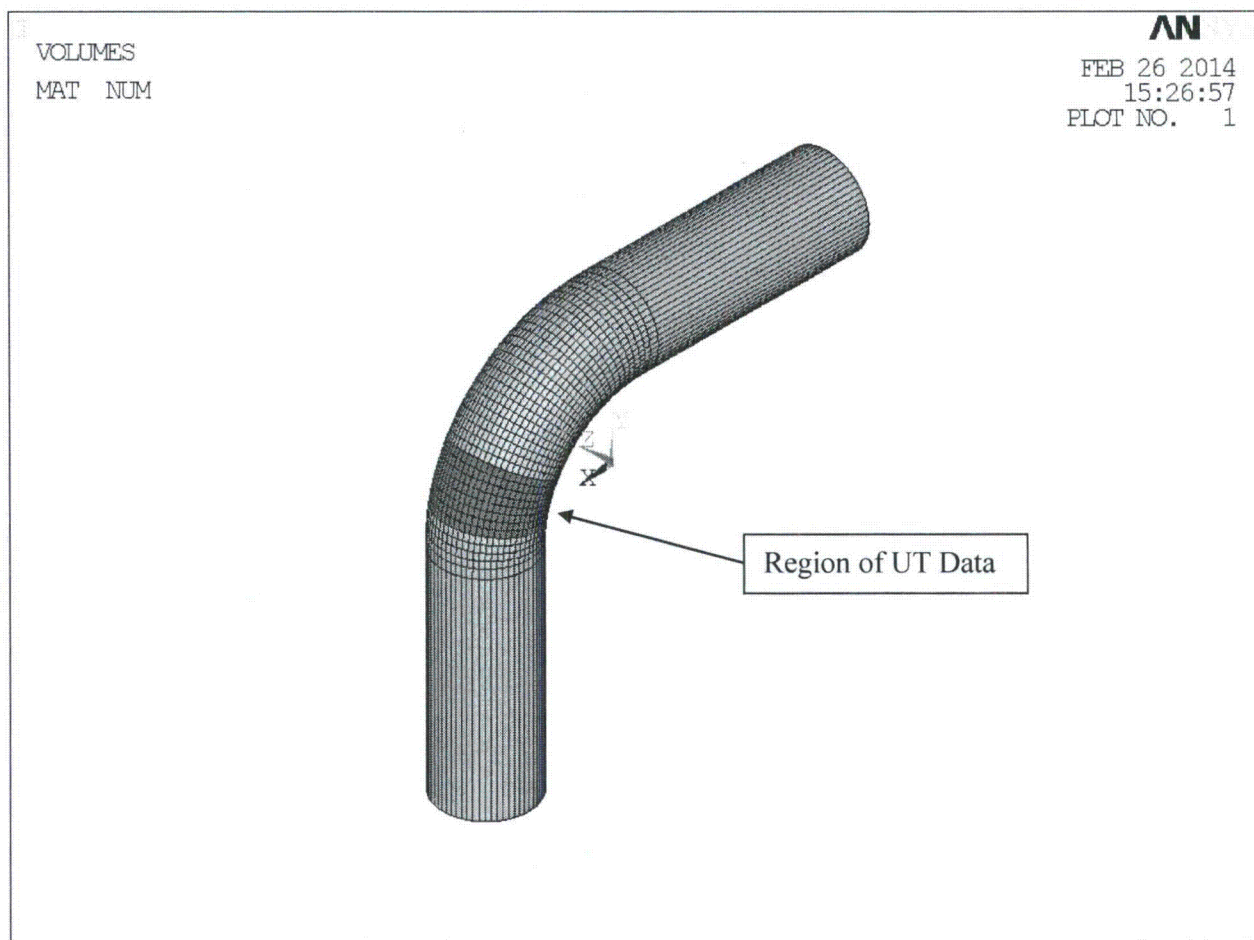
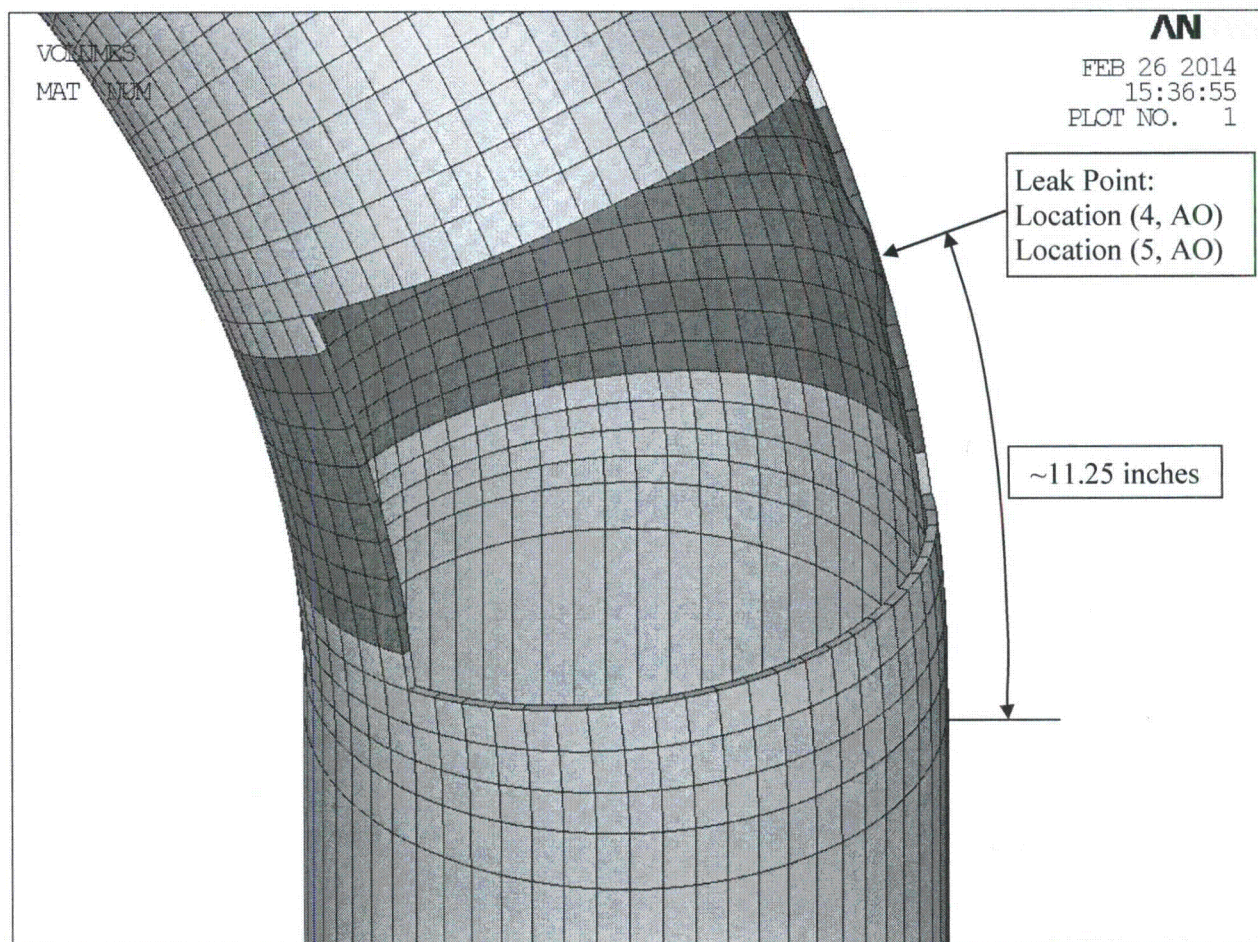
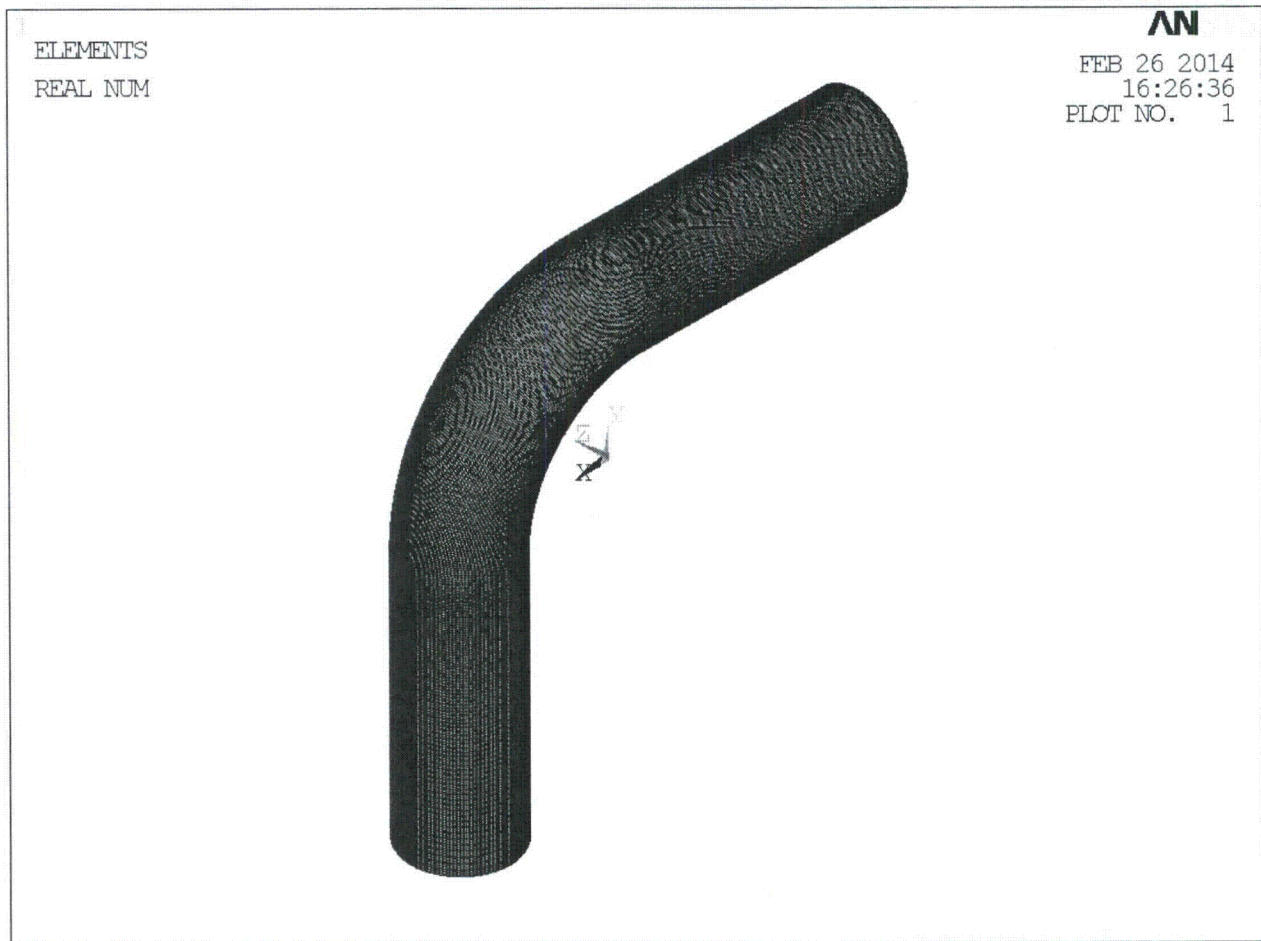
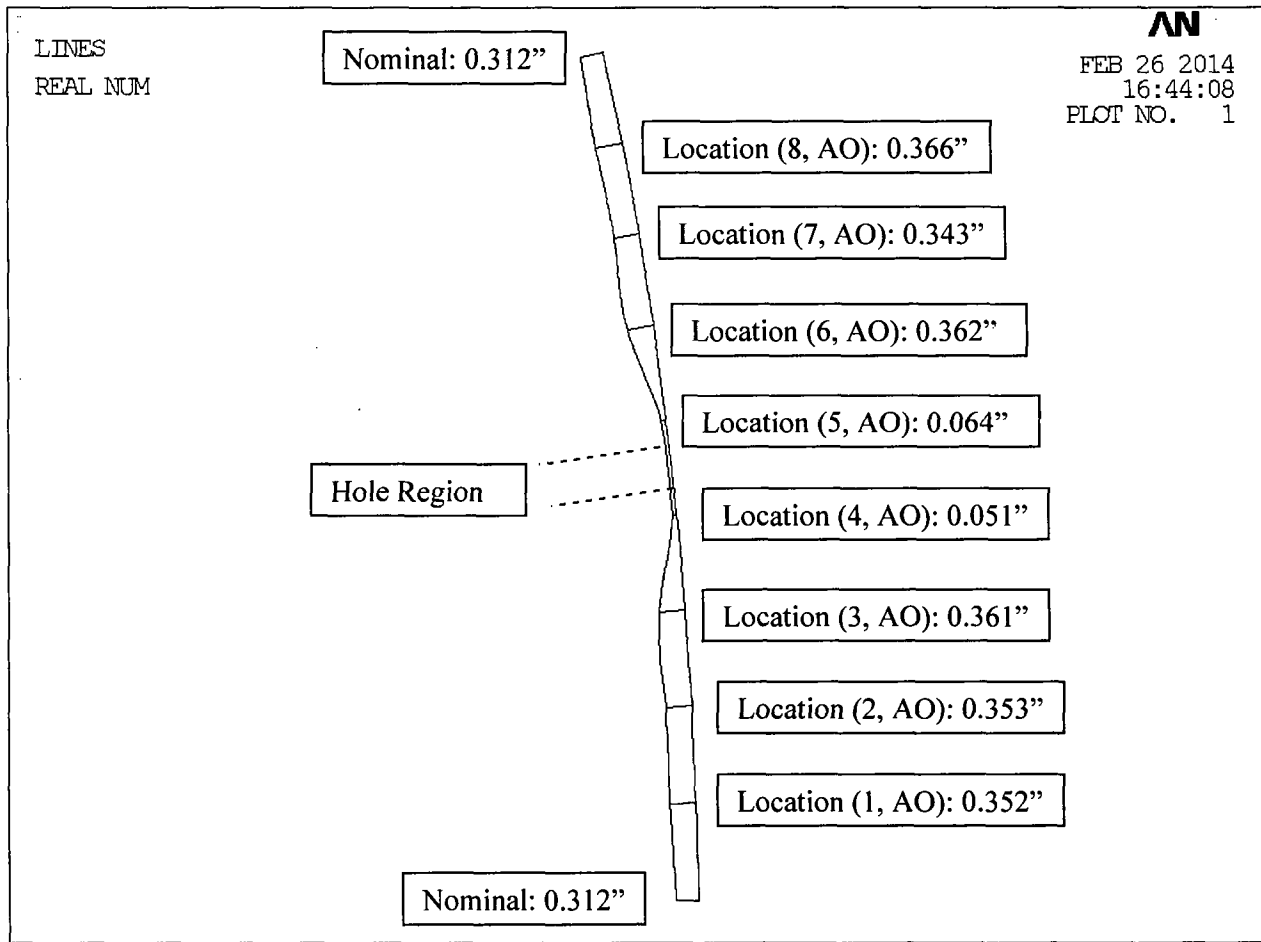

Figure 3: Model Geometry, Global View
Figure 4: Model Geometry, Thinning View
Figure 5: Finite Element Model
Figure 9: Linearized Path Locations
Figure 3 shows a global view of the FEM solid model geometry. Figure 4 shows a view of the thinning in the solid model geometry with a detailed view of the leak region. Figure 5 shows a global view of the final finite element model mesh. The ANSYS input files that generate the FEM are listed in Appendix A.
Linearized stresses are extracted at each of the grid locations provided in Reference [4] along the axial path of the elbow and through the leak location as shown in Figure 9. The extracted hoop membrane stress due to two moment loads are stored in the Excel spreadsheet, *Pilgrim-Results.xlsx*, and the results are shown in Table 1.
- 1) See Figure 9 for layout of UT Data Points and Figure 4 for relative location on the elbow.